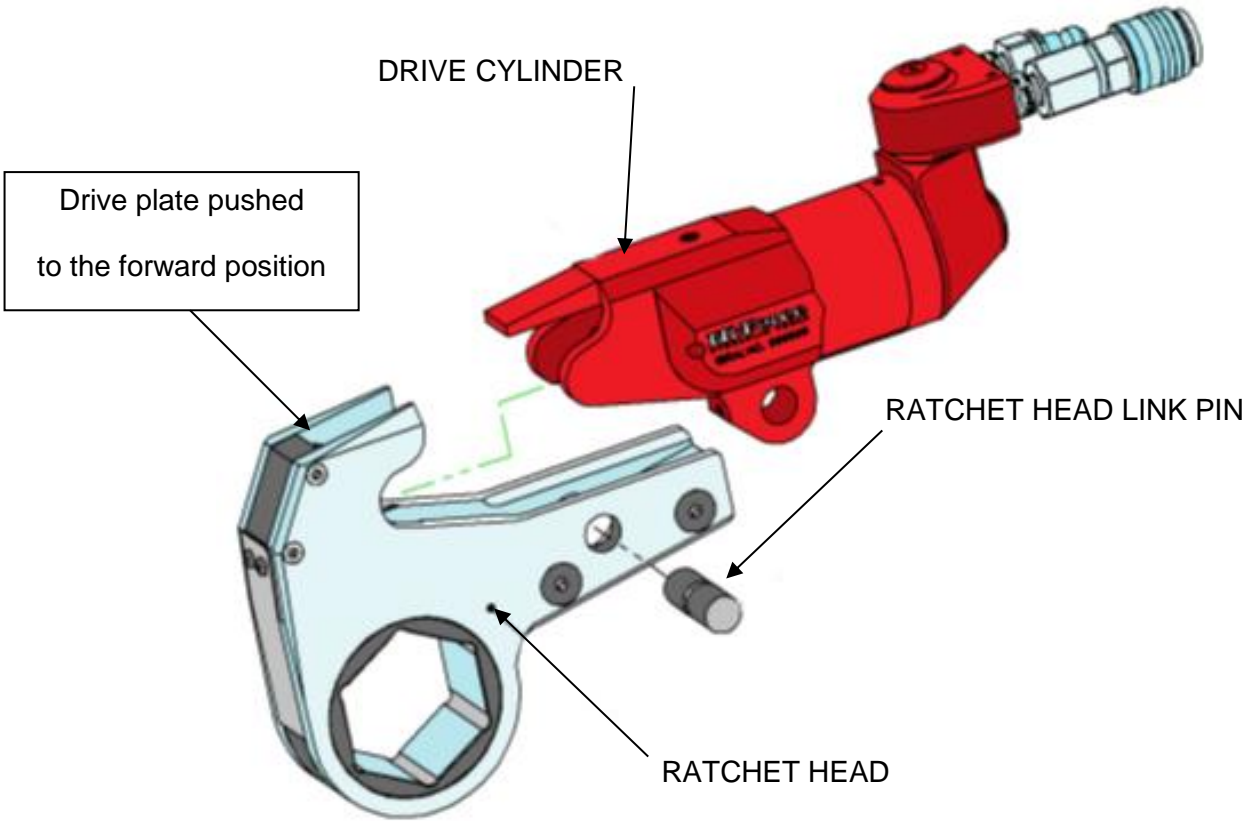

Fig 3: attaching the ratchet head
5. Mate the selected ratchet head to the cylinder by inserting the end of the cylinder opposite the swivel inlets between the Side Plates of the ratchet head. **Refer to Fig. 3**